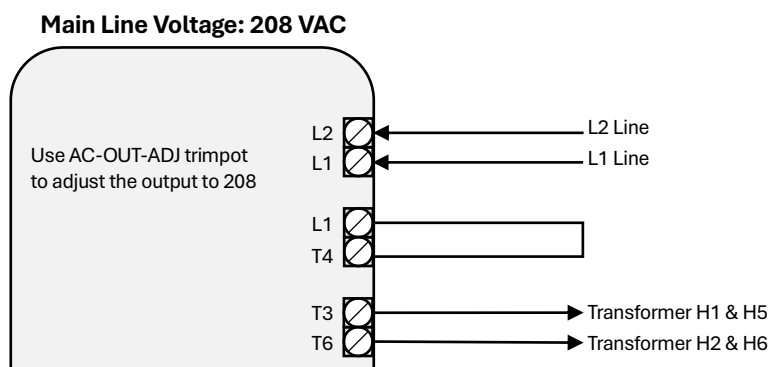
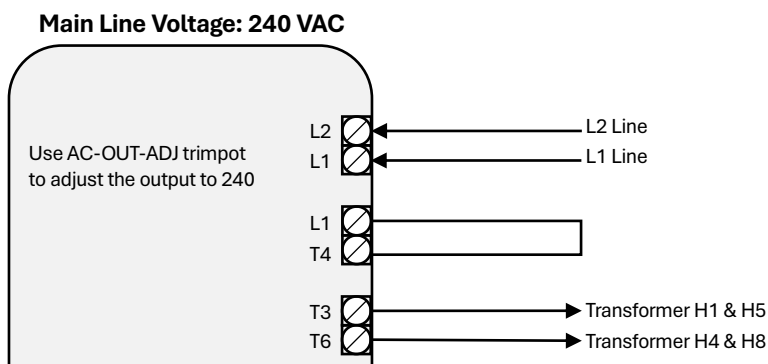
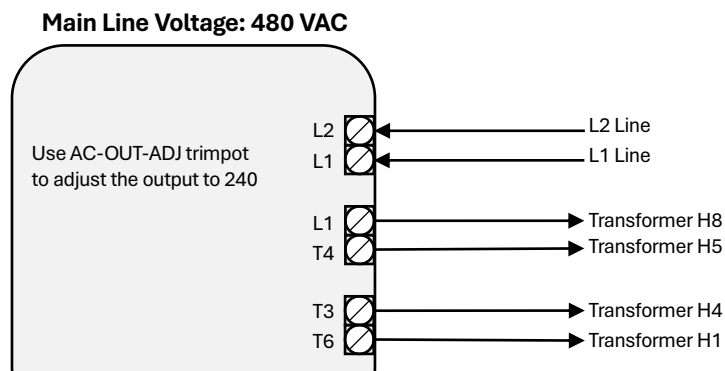

Figure 7: 208 VAC Wiring
Figure 8: 240 VAC Wiring
Figure 9: 480 VAC Wiring
| Figure 7: 208 VAC Wiring.....                                 | 6  |
| Figure 8: 240 VAC Wiring.....                                 | 6  |
| Figure 9: 480 VAC Wiring.....                                 | 7  |
- ◆ **L1, T4, T3, T6:** External connections based on incoming main line power [see Figure 7, Figure 8, and Figure 9].